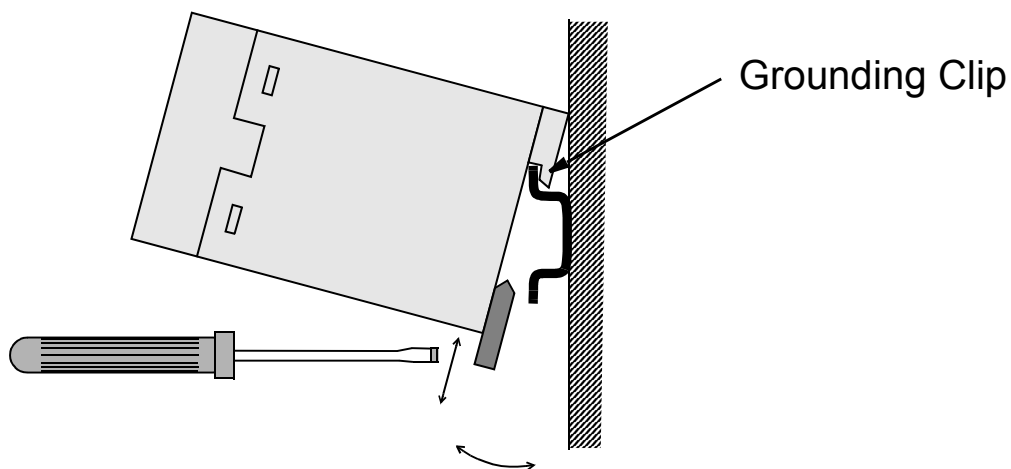

Figure 3-1 Mounting and removing the module.
The module ground is connected to the mounting rail by means of a grounding clip (see Figure 3-1 below). The mounting rail onto which the option module is to be mounted must be grounded to a noiseless ground. If the rail is not mounted on a properly grounded base, a separate grounding conductor must be used. The conductor must be as short as possible and the cross-sectional area must be at least 6 mm². **Note:** No solid copper conductor may be used (stranded wire allowed only).
3. Push the module onto the rail. The module can be released by pulling the locking spring with a screwdriver (see Figure 3-1).
7. Push the module onto the rail. The module can be released by pulling the locking spring with a screwdriver (see Figure 3-1)